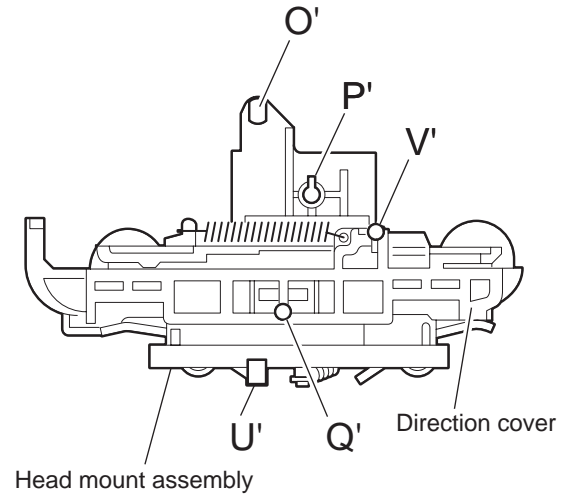

Fig.11
## 2.2.6 Reattaching the Play/ Record & Clear head (See Fig.11~13)
- (1) Reattaching the head mount assembly.
- b) Fit the bosses **O'**, **P'**, **Q'**, **U'** and **V'** on the head mount assembly to the holes **P** and **V**, the slots **O**, **U** and **Q** of the mechanism sub assembly (See Fig.11 to 13).